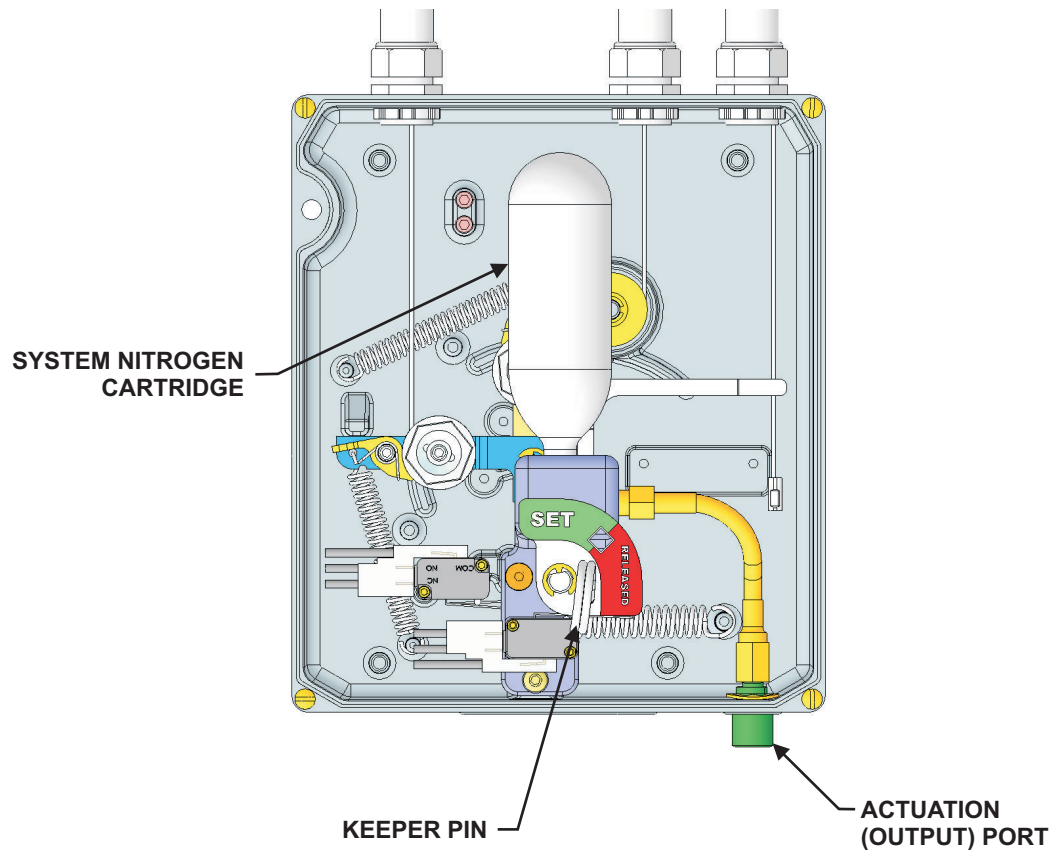

Figure 5-2. XV Control System, Internal View
3. Remove the cover from the XV Control System. Install Keeper Pin (P/N 60-9197108-000). See Figure 5-2 for Keeper Pin location.
4. Remove the System Nitrogen Cartridge (P/N 87-120043-001). Refer to Figure 5-2 for location in XV Control System.
6. Verify installation of the lockout screws for appropriate usage (refer to Figure 5-2).